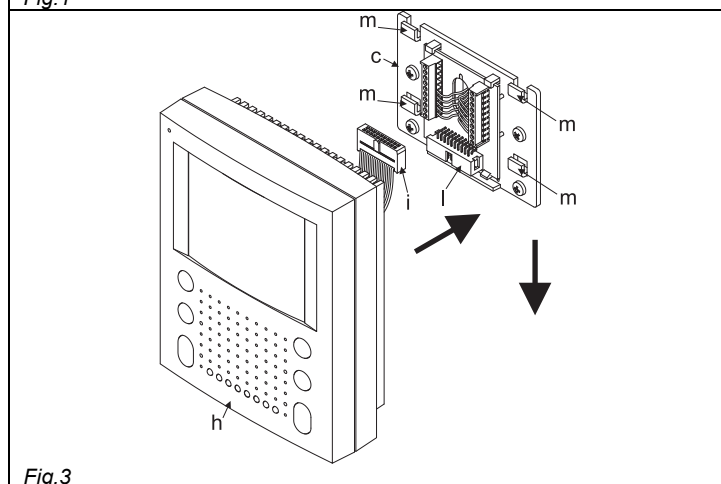
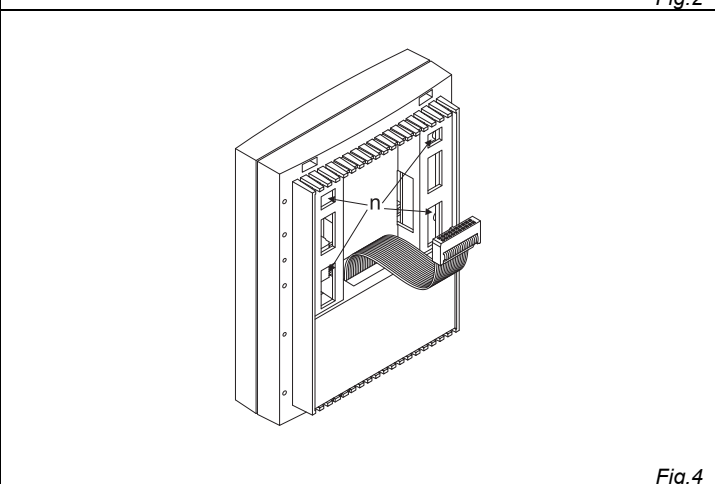

Fig. 3
Fig. 4
- Once the wires are connected, hook the videophone "h" to the Mounting plate "c" as shown in Fig. 3.
- Place the videophone "h" against the 4 hooks "m" on the mounting plate "c" (in line with the 4 openings "n" on the rear side of the videophone Fig. 4) and push down as suggested by the pointers in Fig. 3, the videophone will lock into place;